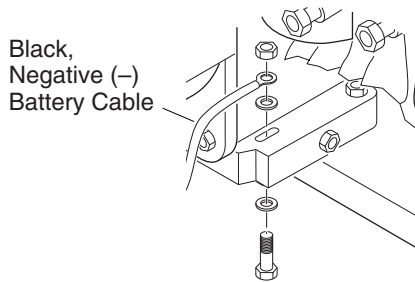

Figure 8 - Connecting Black, Negative (-) Battery Cable to Engine Block
2. Attach the black, negative (-) battery cable to the engine block. Use the bolt, nut, and two washers provided with the battery cables. Use long mounting hole on opposite side of engine from starter solenoid. Attach cable as shown in Figure 8.